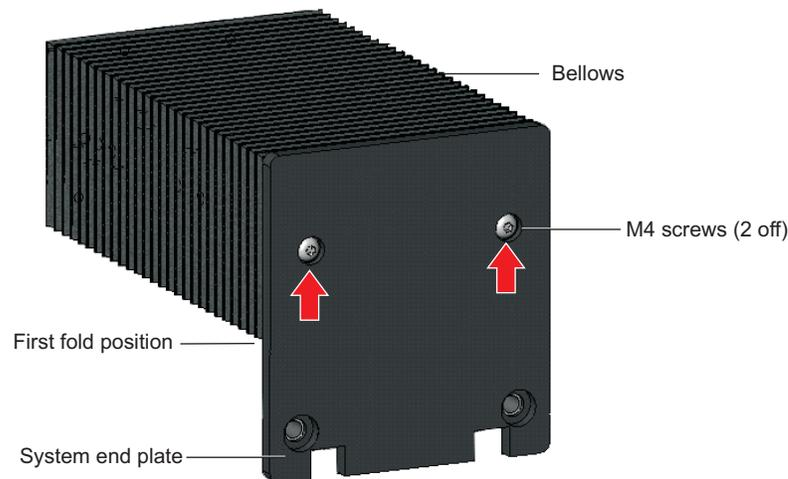

Figure 3.11
- Replace the two M4 fixings that secure the bellows to the system end plate and tighten to a torque of 0.7 Nm, see Figure 3.11.